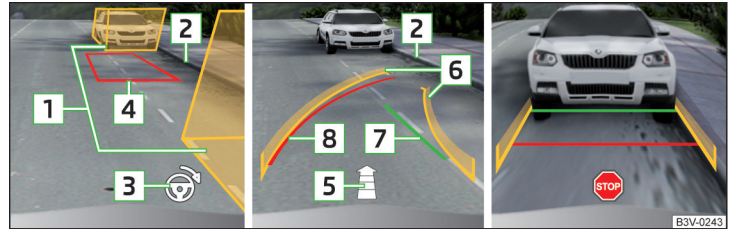

Fig. 189 Display
- Stop the vehicle stop so that there are no obstructions in the gap between the auxiliary boxes **1** » Fig. 189 and the rear box does not extend on the side of the parking space **2**.